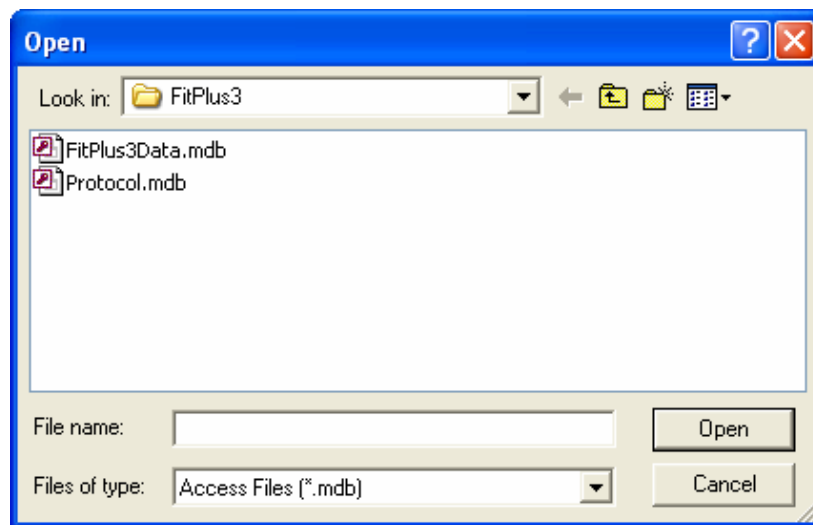

Figure 7-14. Select Source Database File Dialog Box
1. By default, the active database name is displayed in the source database selection. If a different database is needed, click the **Browse...** button in **Source Database**. The **Open** dialog box appears (Figure 7-14).